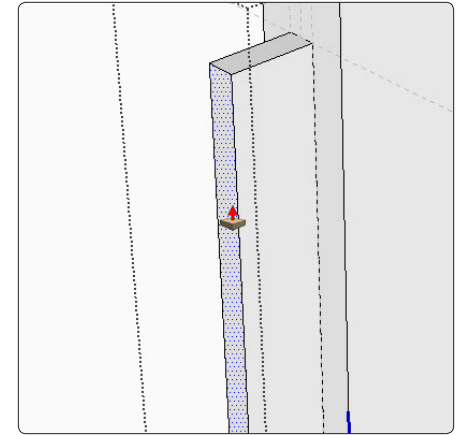

Figure 6. Use the Push/Pull Tool to give the tenon the proper length.
Step 3 Choose the Push/Pull Tool. Hover over the tenon shape, and notice how it's highlighted with a pattern of blue dots. Click the mouse and begin pulling the tenon outward. To quickly make the tenon the proper length, type $\frac{3}{4}$, which will appear in the Measurements Box, and press the Enter key (Figure 6).